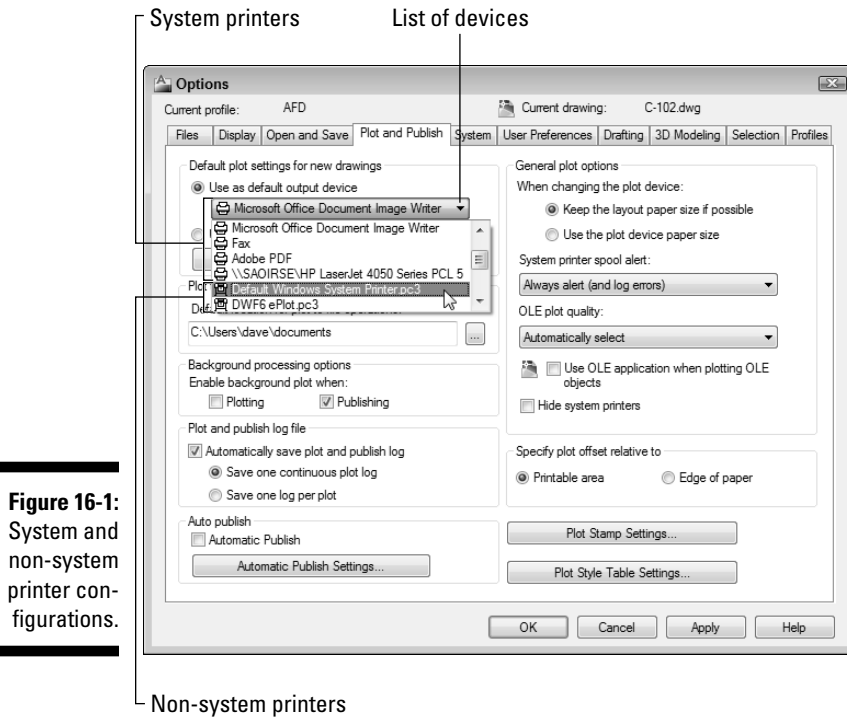

Figure 16-1: System and non-system printer configurations.
3. **Click the drop-down arrow to view the list just below the Use as Default Output Device option, as shown in Figure 16-1.**